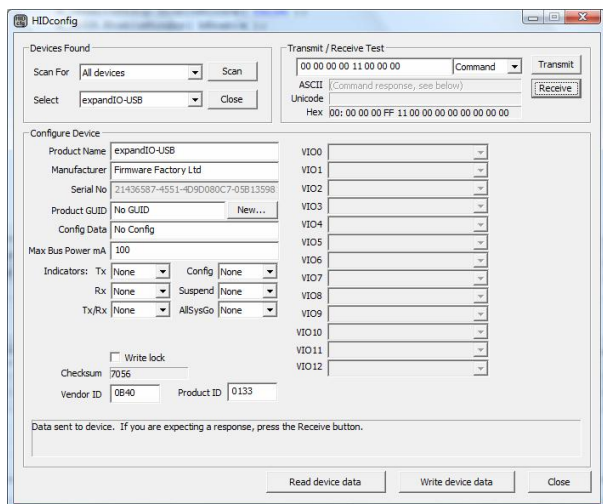

Figure 9. HIDconfig.exe application
1. Using the *HIDconfig.exe* application (figure 9) in the development kit. This application makes it very easy to copy the configuration from an existing product to a new product and is suitable for in-factory use. (It cannot be used if you change the Vendor ID and / Product ID.)